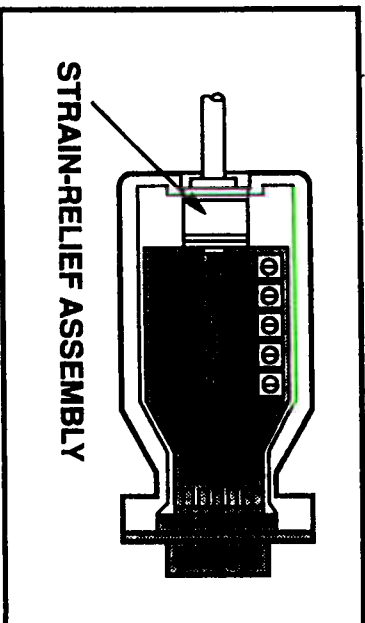

Figure 2. Microdriver And Strain-Relief Assembly
7. Insert the strain-relief assembly (with the wire going through it) into the slot in the bottom half of the Microdriver case and set it into the recess in the case. If the telephone wire is too thin to be held by the strain relief assembly, use tape to increase its diameter. If the wire is too large, it may be necessary to drill out the strain relief slightly. The completed assembly should appear as shown in Figure 2.